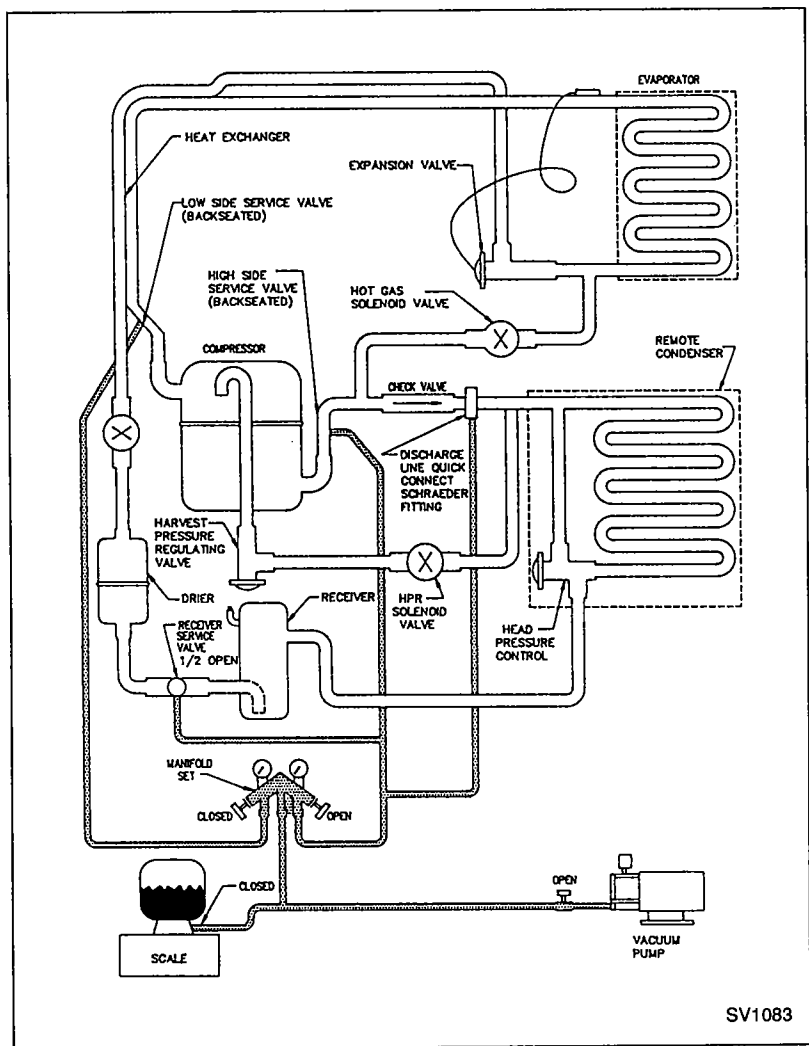

FIGURE 59. EVACUATION OF REMOTE SYSTEMS
1. Evacuation of remote systems requires connection at four points for complete evacuation as follows. Refer to Figure 59.
2. Install manifold gauges, scale and two-stage vacuum pump as shown on Figure 59.